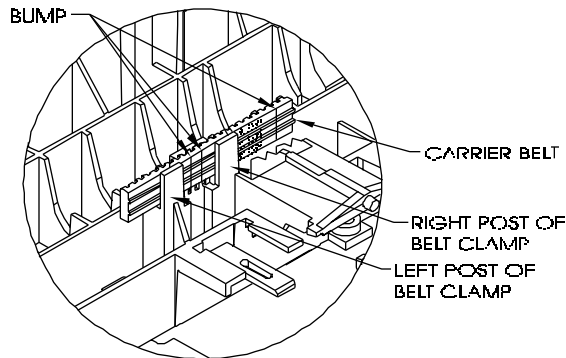

Figure 5-5. Carrier Belt Clamp.
11. Once the Carrier Assembly is removed from the Slide Shaft, turn it over so that you can see the Belt Clamp. See Figure 5-5.
1. To install the Belt onto the Carrier Assembly, the “bumps” on the belt (where the ends of the belt are joined together to make the belt continuous) must be positioned between the left and right posts of the Belt Clamp. See Figure 5-5.
3. Check the position of the Carrier Belt to make sure it matches Figure 5-5.